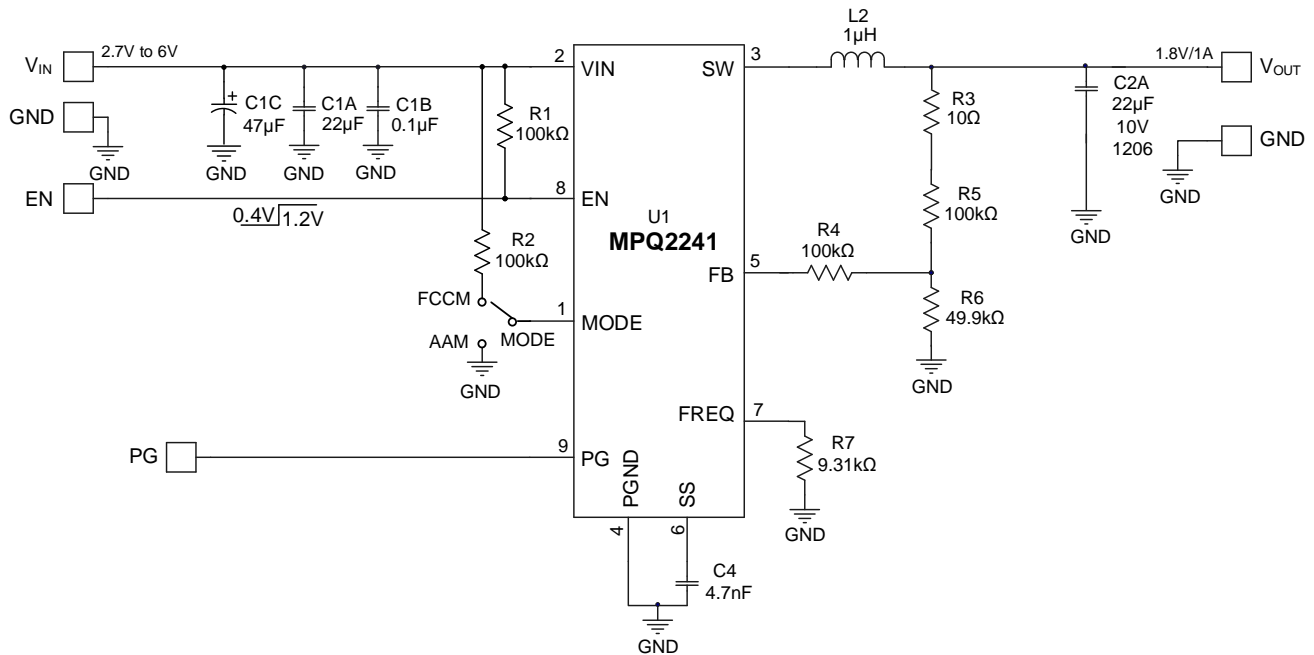

Figure 5: Typical Application Circuit ($V_{OUT} = 1.8V$, $I_{OUT} = 1A$)
10) The recommended PCB layout is based on Figure 5 on page 25.